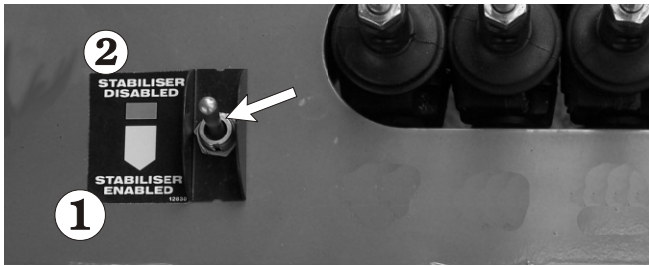

Figure 13.4 - Stabiliser Enable Switch
In order for the stabilisers to function an additional switch (see Figure 13.4) needs to be operated. This switch, mounted adjacent to the stabiliser valve levers, must be held on in the STABILISER ENABLED ① position while the individual stabiliser valves are operated. When released it will